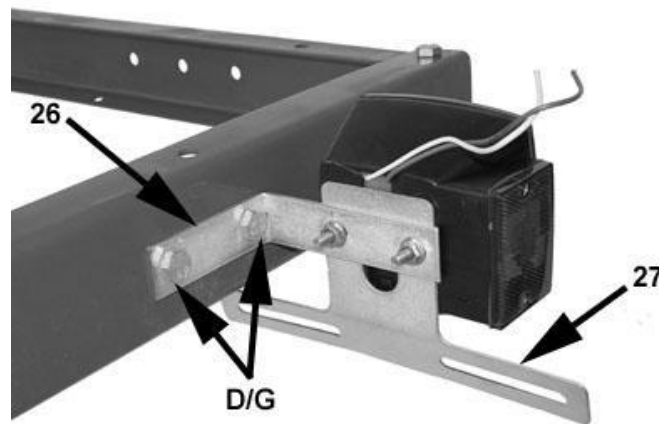

Figure 9-1
1. Install left and right tail light brackets (26) with M10 x 20 bolts (D) and M10 nylon lock nuts (G).
2. Install license plate bracket (27) and left tail light (with clear lens on bottom) on left side bracket. See figure 9-1.